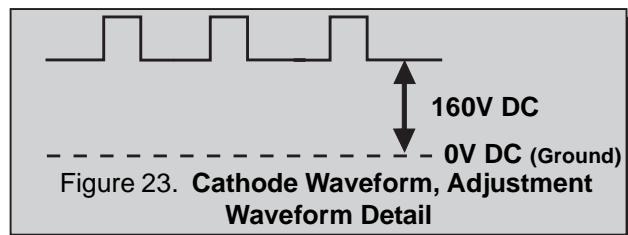

Figure 23. Cathode Waveform, Adjustment Waveform Detail
5. Connect the scope to GRN Cathode (KG) on the CRT-Board.
8. View scope trace at Horizontal rate and adjust the Service Mode DAC (C1) level until a scanning period of **160V** above DC ground is measured, as indicated in Fig. 23.
9. Connect the scope to the RED Cathode (KR).
12. View the scope trace and adjust the Service Mode DAC (C0) for the scanning period to be **160V** above DC ground. (See Fig. 23)
13. Connect the scope to the BLU Cathode (KB).
16. View the scope trace and adjust the Service Mode DAC (C2) for the scanning period to be **160V** above DC ground. (See Fig. 23)